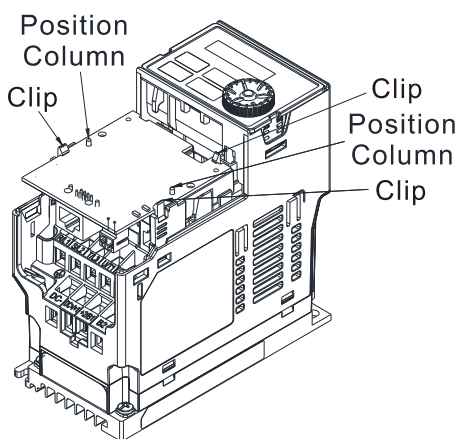

Figure 8-23
5. Assembling the option card: As shown in the Figure 8-23, have the terminal block of the adapter/option facing up, aim the two holes of the option card to the position column and press downward so that the three clips are engage the option card.